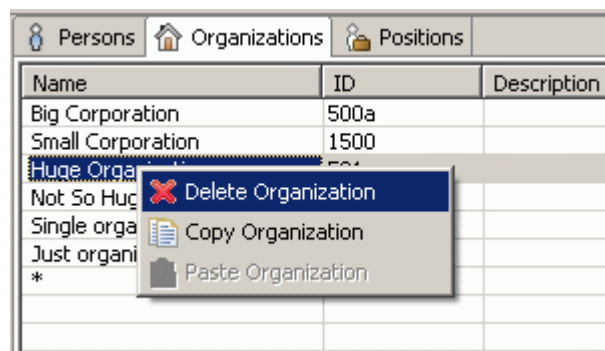

Figure 2. Context sensitive menu, Delete Organization
- Right click on the organization, you want to delete, in the table list. A context sensitive menu appears (see Figure 2).